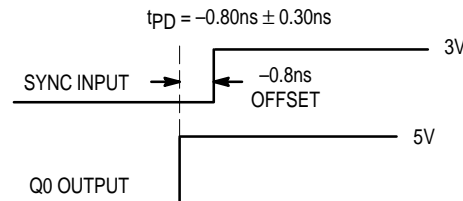

Figure 2. Depiction of the Fixed SYNC to Q0 Offset (tPD) Which Is Present When a 1MΩ Resistor Is Tied to VCC or Ground
- A 1MΩ resistor tied to either Analog VCC or Analog GND, as shown in Figure 2, is required to ensure no jitter is present on the MC88916 outputs. This technique causes a phase offset between the SYNC input and the Q0 output, measured at the pins. The tPD spec describes how this offset varies with process, temperature, and voltage. The specs were arrived at by measuring the phase relationship for the 14 lots described in note 1 while the part was in phase-locked operation. The actual measurements were made with a 10MHz SYNC input (1.0ns edge rate from 0.8V to 2.0V). The phase measurements were made at 1.5V. See Figure 2 for a graphical description.